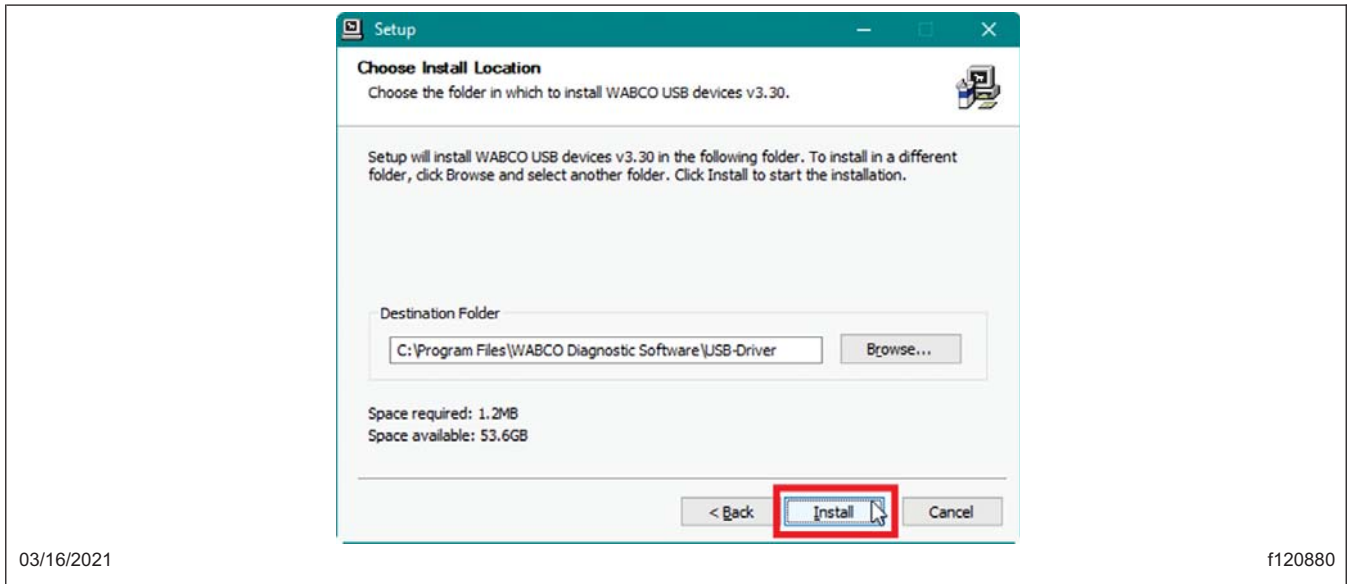

Fig. 20, Choosing the Install Location
- 7.14 At the 'Choose Install Location' window, select 'Install.' See Fig. 20. The setup program will install the files onto your local hard drive.